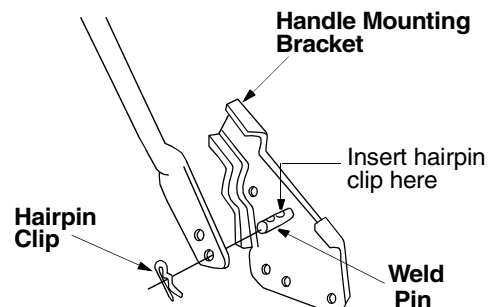
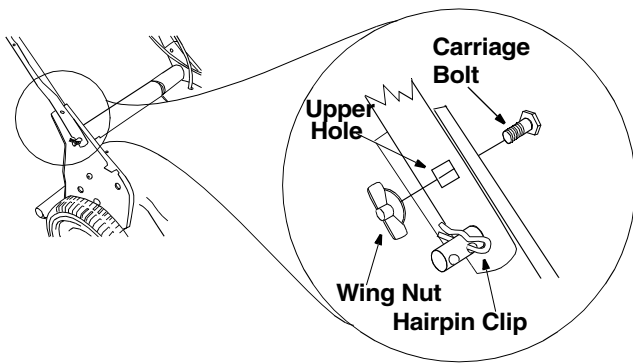

Figure 3
Figure 5
- Remove the hairpin clips from the outer hole in the weld pins on the handle mounting brackets. Using a pair of pliers, squeeze one leg of the lower handle against the handle mounting bracket. Insert the hairpin clip into the inner hole on the weld pin. Repeat on the other side. See Figure 3.
- After you have moved the hairpin clips as shown in Figure 3, place one carriage bolt (found in the hardware pack included with your unit) in the upper hole of the right handle mounting bracket from the inside outward. See Figure 5. Secure with one plastic wing nut. Repeat process on the left side.